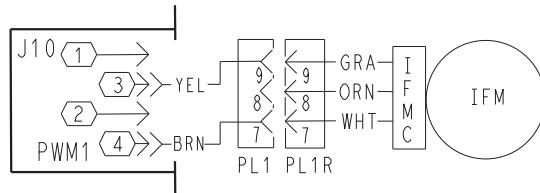

Fig. 8 — Supply Fan Control Wiring Diagram
6. Verify the J10 plug at the SystemVu board is wired per Fig. 8, connected tight, and wires are secured in the plug